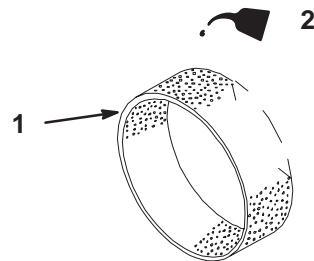

Figure 23
- C. Put one or two ounces of oil on the element (Fig. 23). Squeeze the element to distribute the oil.